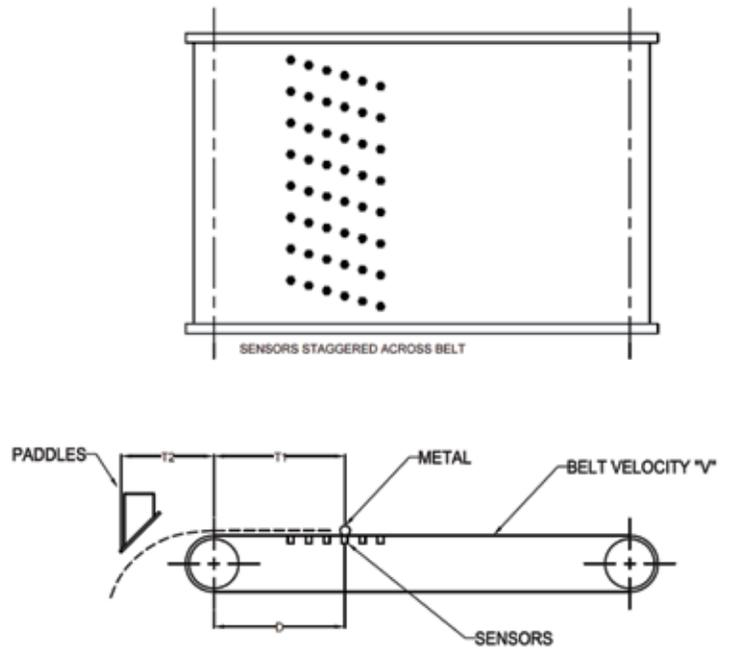

FIGURE 2-1: SENSORS AND TRAVEL TIME
Material introduced onto the belt will travel over the metal sensors at the belt velocity “V”. A good starting point for belt speed is approximately 400 to 450 fpm. (FIGURE 2-1).
Proper paddle placement is critical to obtain good separation. Ideally, the paddles should be adjusted so that the trajectory of the material stream just makes it under the paddles without touching the paddle (FIGURE 2-1). Also, to ensure that the paddle deflects the metal backward more so than down, it is best to position the paddles so that the angle of the paddle relative to horizontal is greater
7. Move a 4-inch (102 mm) or larger piece of metal over the top of each sensor. Please note that each sensor is inline with a paddle, but there are several rows of sensors. Therefore, the easiest test piece to use is a long steel rod approximately ½-inch (12.7 mm) diameter by 3-foot (914 mm) long that can be rolled over the width of the belt in the area of the sensors. See Figure 2.1 (Section 2) for sensor locations.